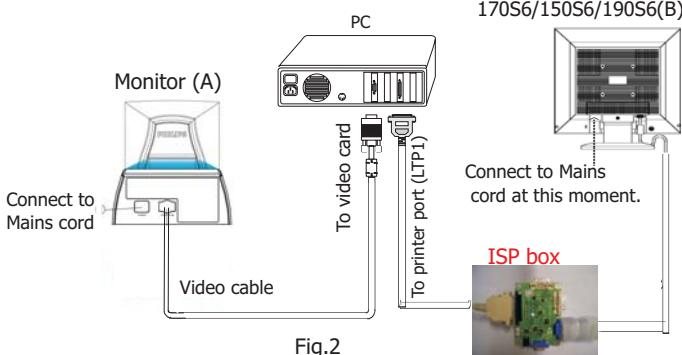

Fig. 2
5. Connect DDC2BI_ISP TOOL and Mains cord to Monitor as shown in Fig. 2.